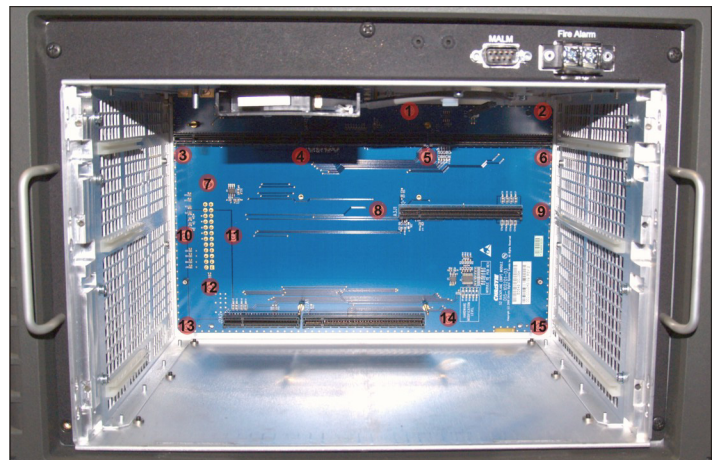

Figure 5-61 Remove Backplane
7. Remove the 15 screws on the inside (**Figure 5-61**) and the three located on top of the cardcage.